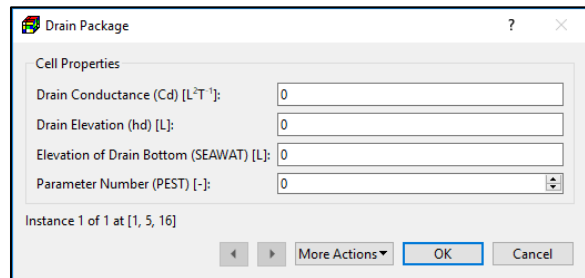

Figure 51. The Drain Package dialog box for specifying cell properties
1. Cell-by-cell input method: Figure 51 shows the dialog box for specifying one or more drain segments to a model cell. For each segment, the following properties need to be assigned.